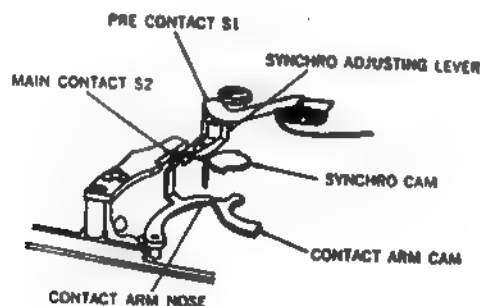
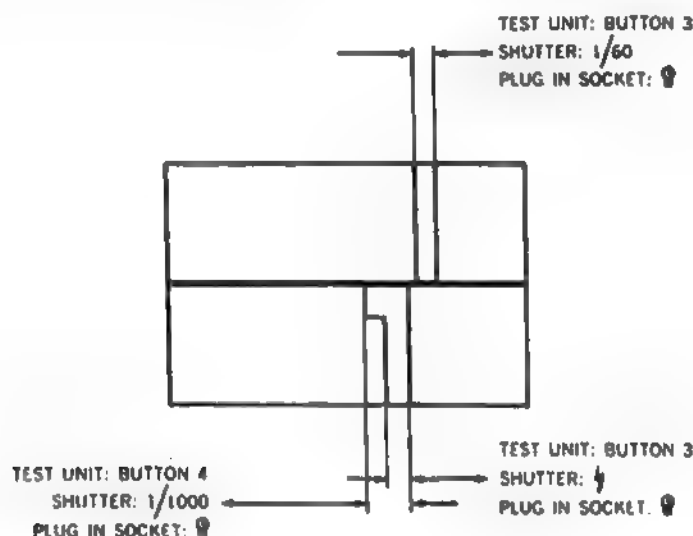
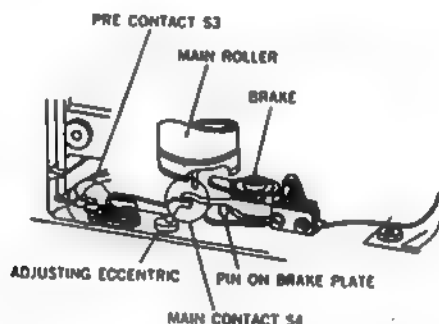

Figure 4-13. Flash Bulb Synchronizing Adjustments.
Figure 4-14. Flash Bulb Synchronizing Pattern.
Figure 4-15. *Electronic Flash Synchronizing Adjustments.*
a. *Checking and adjusting Flash Bulb Circuit* (fig. 4-13). Set the voltage selector switch of test instrument 42-531-Z1W13 to 500-volts. Connect the camera flash lamp socket to the test instrument with connecting cord 42-253.04.
- (3) *Checking contact closing* (fig. 4-13). Set the selector switch to "L", wind the camera shutter, and set the shutter speed dial to "B". Depress the shutter release. The indicator lamp must light. Repeat the operation for each of the shutter speeds, noting that the lamp lights each time the shutter is released. If it does not, check the contact points of switches S-1 and S-2, and correct the fault.
b. Checking and Adjusting Flash Bulb Synchronization (fig. 4-13, 4-14). Connect the camera's flash lamp socket to test instrument 42-253.01-Z1W109 with connecting cord 42-253.04. Remove the camera hinged back and insert tolerance pattern 42-253.01-Z1A96 in the film aperture. Position the camera lens mounting flange over the test instrument opening.
- (1) Depress button (4) on the test instrument.
- (2) Wind the shutter, and set the shutter speed dial to 1/1000-second.
- (3) Release the shutter, and observe the position of the shutter slit on the pattern plate. The shutter opening should coincide with the wide pattern on the plate (fig. 4-14). If it does not, proceed as follows:
- (a) Bend the main contact (S-2), fig. 4-13 with tool 42-253.01-U443W5.
- (b) Repeat the test in (3) above, and readjust the main contact until the shutter slit coincides with the 1/1000-second pattern on the plate.
- (4) Depress button (3) on the test instrument.
- (5) Wind the shutter, and set the shutter speed dial to 1/60-second.
- (6) Release the shutter, and observe the position of the first shutter curtain on the pattern plate. The edge of the shutter should fall within the narrow pattern on the upper part of the plate (fig. 4-14). If it does not, proceed as follows:
- (a) Bend the contact arm nose (fig. 4-13) with tool 42-253.01-U443W6. Bending the nose toward the cam increases the delay of contact closing. Bending the nose away from the cam decreases the delay.
- (7) After making a synchronizing adjustment, recheck and adjust alternately between 1/1000-second and 1/60-second until both settings are correct.
c. *Checking and Adjusting Electronic Flash Circuit* (fig. 4-15). Set the voltage selector switch of test instrument 42-531-Z1W13 to 1,000-volts. Connect the camera electronic flash socket to the test instrument with connecting cord 42-253.04.
- (1) *Checking insulation.* Set the test instrument selector switch to "I".
- (d) If current leakage is indicated by tests (b) and (c) above, trace the circuit with test leads 103.25.18. Check for a short in pre-contact switch (S3). fig. 4-15, or a short in main contact switch (S4). Check for faulty insulation.
- (2) *Checking conductivity.* Set the test instrument selector switch to "D".
d. *Checking and Adjusting Electronic Flash Synchronization* (fig. 4-15, 4-16). Connect the camera electronic flash socket to test instrument 42-253.01-Z1W109 with connecting cord 42-253.04. Remove the camera hinged back and insert tolerance pattern plate 42-253.01-Z1A97 in the film aperture. Position the camera lens mounting flange over the test instrument opening.
- (1) Depress button (6) on the test instrument.
- (2) Wind the shutter, and set the shutter speed dial to the electronic flash symbol (1/50-second).
- (a) *Adjusting first shutter curtain pattern* (fig. 4-15, 4-16). Position the adjusting eccentric (fig. 4-15) with tool 42-253.01-76W2 until 0.5mm of the first curtain shows in the left rectangle of the pattern plate (fig. 4-16).